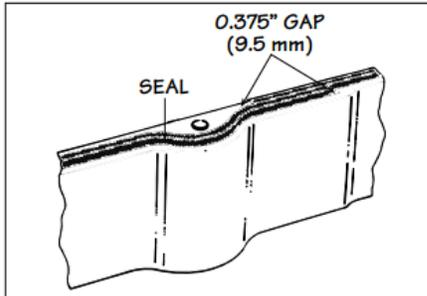

FIG. 14
1. Be sure the seal is seated in the groove at the bottom of the surface of the Jacobs' spacer (see Fig. 14).